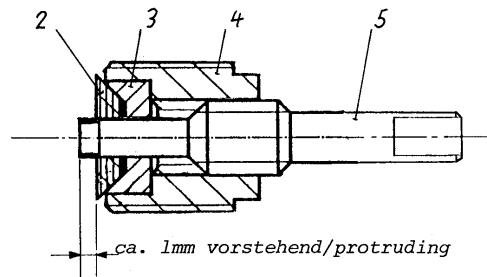

Fig. 8. Preparing subassembly of the parts 2-5 of the purge valve.
- 1 Assemble parts 2-5 as shown in Fig. 8. The tip of cock shaft 5 should protrude about 1mm.
- 2 Screw this subassembly (Fig. 8) into the valve body, and tighten moderately with 10mm open-end spanner.
- 3 Tightening will narrow the hole in the plastic gasket (2), preventing self-misalignment of the knob position. Moreover, when the purge valve is in "open" position, solvent cannot leak in direction of the knob. Make sure knob is fairly stiff to turn.